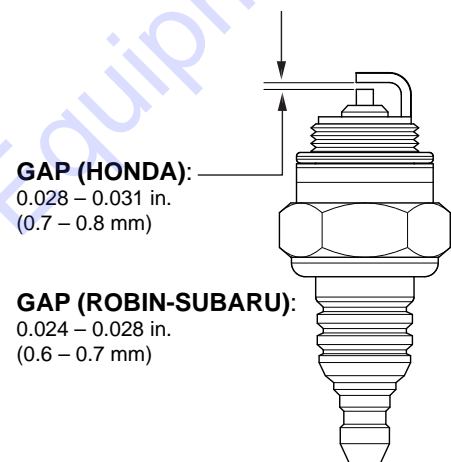

Figure 56. Spark Plug
1. Remove the spark plug (Figure 56) and clean it with a wire brush if it is to be reused. Replace the spark plug if the insulator is cracked or chipped.
2. Using a feeler gauge, adjust the spark plug gap (Figure 56). If your trowel has a **Honda** engine, the gap should measure 0.028–0.031 inch (0.7–0.8 mm). If your trowel has a **Robin-Subaru** engine, the gap should measure 0.024–0.028 inch (0.6–0.7 mm).